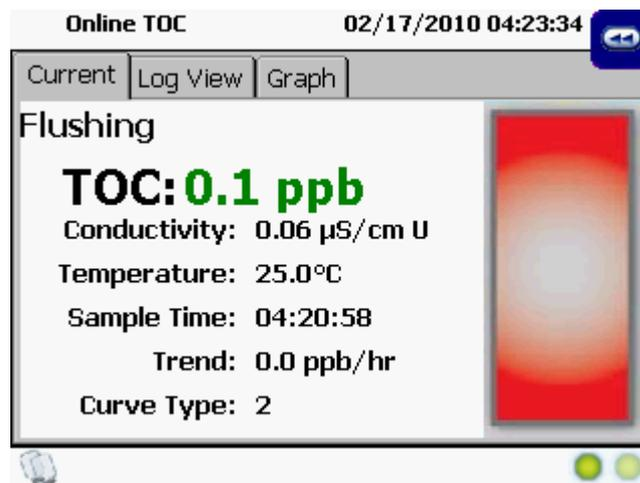

Figure 7-1 Online TOC mode, current tab, in alarm condition
- When a TOC or conductivity alarm condition occurs, the home screen animation area flashes red, the displayed value of the variable causing the alarm also turns red, the PAT700 makes a sound (if a sound is programmed), the alarm icon is enabled, and the alarm condition is written to the data log and audit trail. See Figure 7-1.